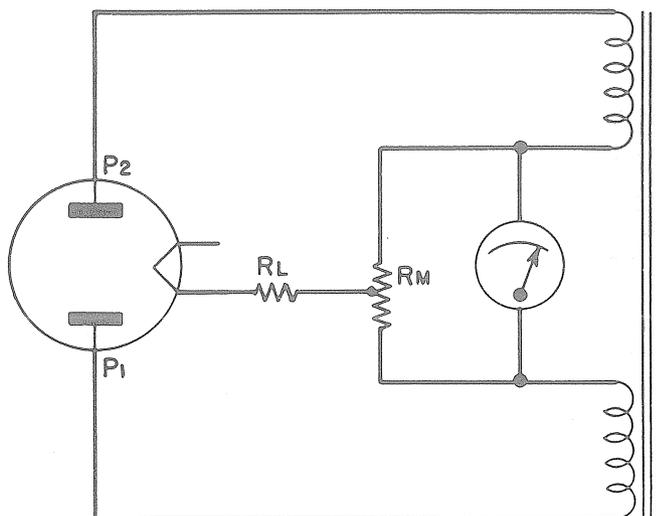

Figure 2-1. Rectifier Diagram
2. THEORY OF OPERATION OF TUBE TESTER SECTION. (See Figures 2-1 and 2-2)
a. Examine first the simple full-wave rectifier circuit shown in figure 2-1. The two power transformer secondary windings have their inner ends connected to a direct-current milliammeter. Across the milliammeter is a center-tapped resistor R_M . The load is shown as a resistance R_L , connected between the center tap and the rectifier filament as in any full-wave rectifier circuit. When rectifier plate P_2 is positive, electron flow is through the upper half of R_M , and the meter tends to deflect in one direction. When P_1 is positive, electron flow is through the lower half of R_M , and the meter tends to deflect in the other direction. With the load resistance fixed and equal forces acting on the meter in both cases, the meter stays at zero because it cannot follow variations at the power line frequency.